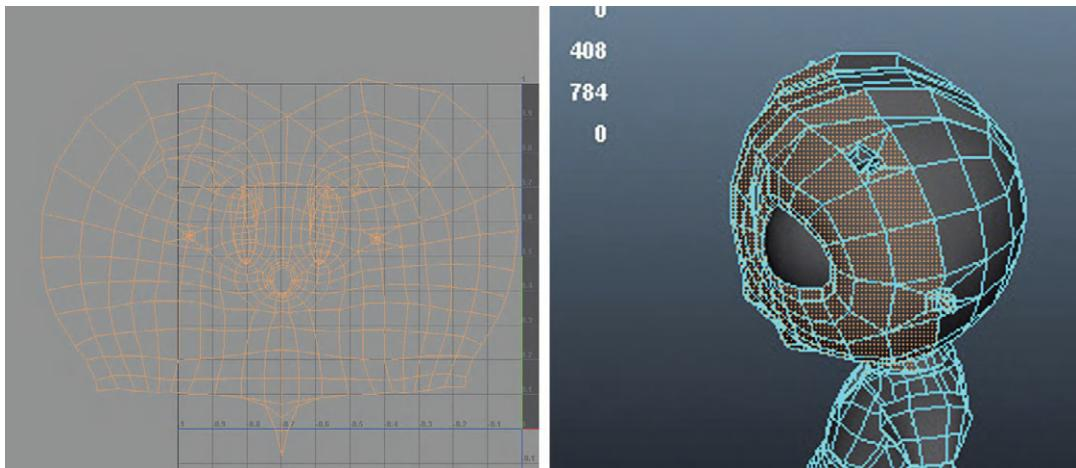

FIG 5.35 Using the UV Texture Editor in concert with the View Panel can allow for rapid selection of appropriate faces.
Step 9: Select just the faces (polygons) of the character's face. A nice way to do this is to select all the faces of the head in the UV Texture Editor, and then in the View Panel, Cntrl-marquee across the polygons that are not desired (the back of the head) as seen in Fig. 5.35.